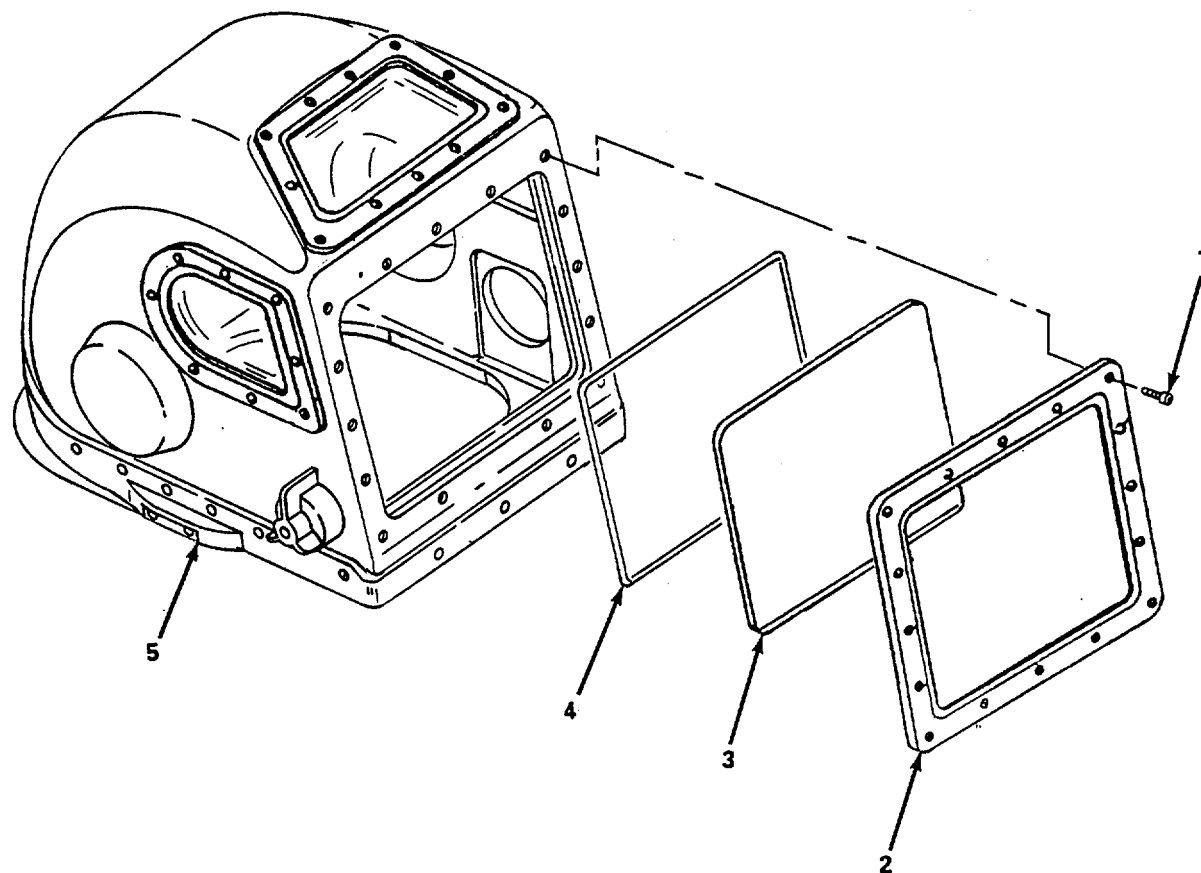

Figure 5-5. Front Viewport, Replace.
a. Replace (Front). (figure 5-5)
- (1) Remove 16 screws (1), viewport retainer (2), viewport (3) and preformed packing (4).
- (2) Inspect retainer (2) and replace if rusted or cracked.
- (3) Inspect helmet shell (5) around front viewport (3). Replace helmet shell (5) if cracked.
- (4) Apply a thin film of lubricant to new preformed packing (4).
- (5) Ensure preformed packing groove is clean.
- (6) Install new preformed packing (4) in groove.
- (7) Install front viewport (3) and ensure new preformed packing (4) stays in groove.
- (8) Install retainer (2) and four corner screws (1) finger tight.
- (9) Install remaining 12 screws (1) finger tight.
- (10) Torque all screws (1) to 8-10 in.-lb (0.9-1.2 Nm) in a crisscross staggered sequence to prevent cracking or warping of viewport (3) or retainer (2).